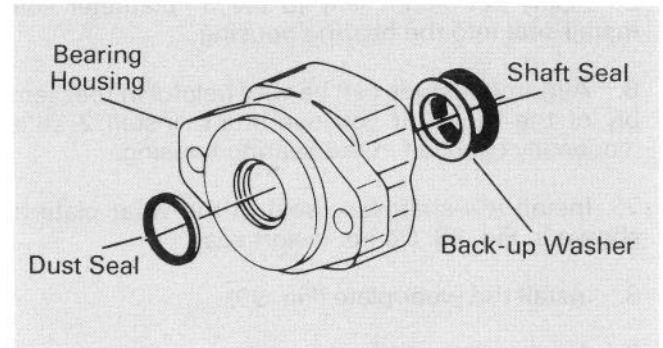

Figure 98
21. Use a small screwdriver to remove shaft seal, back-up washer and dust seal from bearing housing, see Fig. 98. Do not damage bore of housing.